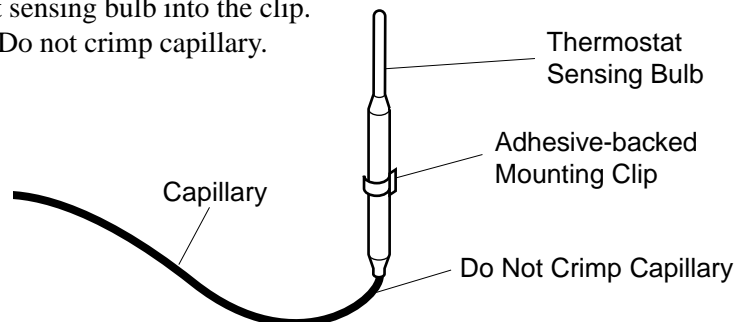

Figure 34 - Positioning the Thermostat Sensing Bulb in the Vertical Position with the Capillary at the Bottom
- The mounting clip must be a minimum of 3" from bottom of fireplace to prevent crimping of capillary. Once you have decided on a location, clean the area thoroughly. Remove the paper backing from the adhesive on back of mounting clip. Press the clip into the new location so that the thermostat sensing bulb will be positioned vertically with the capillary at the bottom (see Figure 34). Slide the thermostat sensing bulb into the clip.